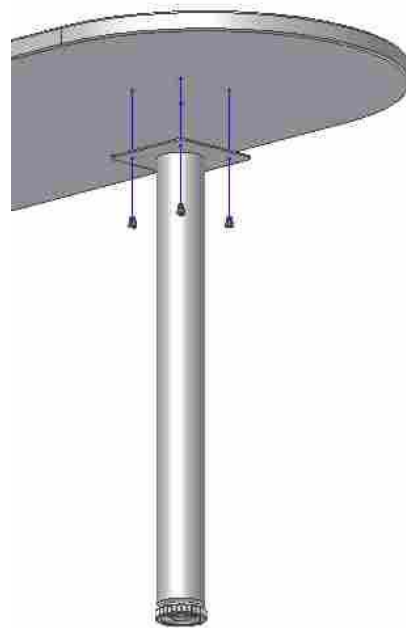

Fig 12
STEP 2.5 – Before placing the table on the brackets, mount the peninsula foot on the end using 4 M6x12 DIN785 Phillips screws (Fig. 12 and 13).